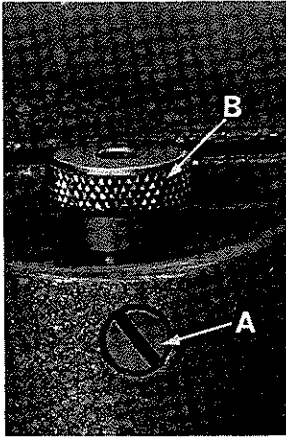
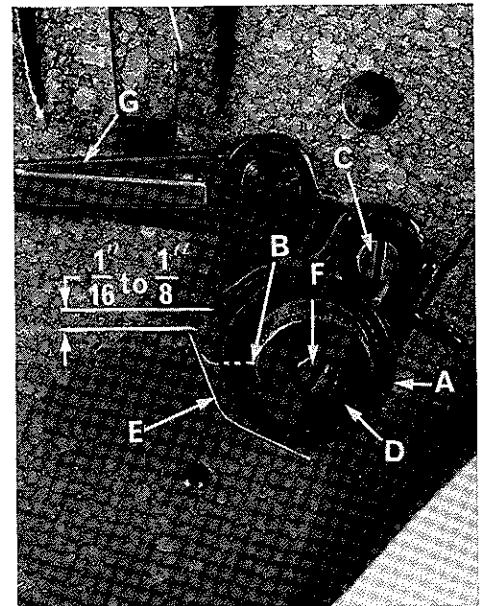
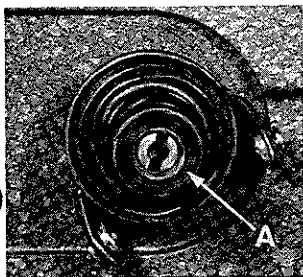

Fig. 12
Fig. 19
Fig. 20
Fig. 12 illustrates the stitch regulator. For timing the hooks, it is recommended the regulator be turned to produce shortest stitch length. To do this, loosen lock screw (A) and turn the stitch regulator (B) counterclockwise as far as possible. Lock in position by tightening lock screw (A).
The take-up spring barrel (A, Fig. 19), which controls the needle thread should be set so that the lower spring stop is at the 9 o'clock position as shown (B, Fig. 19). Loosen screw (C) and turn barrel (A) immediately behind locknut (D) to make this adjustment. This recommended position for the barrel should be approximately correct for first sewing trials. Ultimately, the take-up spring barrel should be adjusted so that there is about $\frac{1}{16}$ to $\frac{1}{8}$ inch movement of the check spring (E) as the needle thread passes around the 6 o'clock position of the hook.
Set the front frame needle thread eyelet (G, Fig. 19) in its lowest position parallel with the cloth plate.
By sewing trials, adjust the needle thread tension (A, Fig. 20), check spring pressure, position barrel (A, Fig. 19) and set the stitch length (B, Fig. 12) to required specifications.